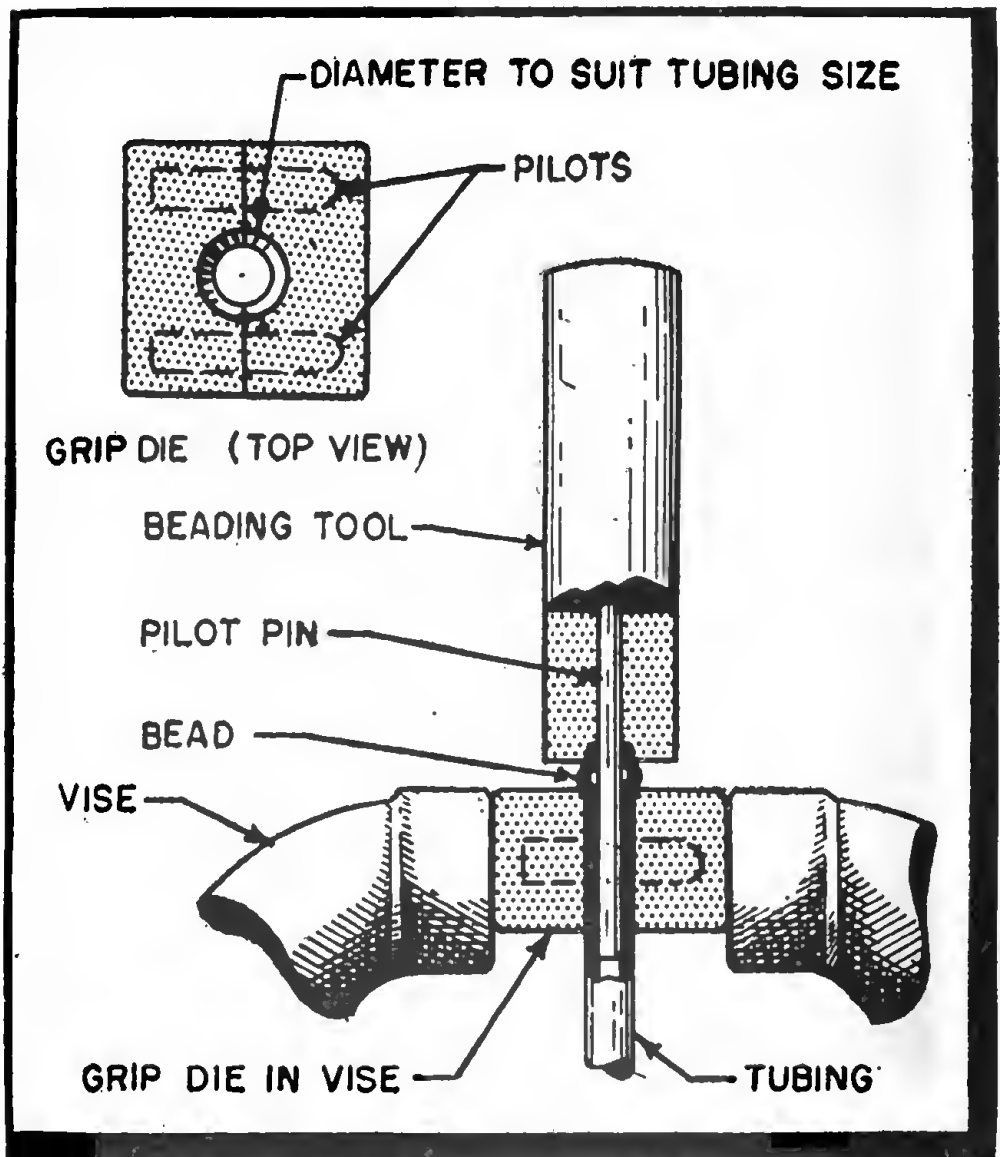

Figure 166. Tools for beading small tubing.
e. **TUBE-BEADING TOOLS.** Tubing-end hose connections and hose nipples have raised ridges (called beads) near the ends. These beads keep the clamp from slipping off the end of the tubing and thus prevent blow-off of the hose. Beading is usually done with beading tools, two types of which are shown in figures 166 and 167.
(1) The tool set shown in figure 166 is used for beading small tubing. It consists of a set of grip dies and a beading tool. The tubing is placed in the correct grip die and the die is clamped in a vise. (The tubing should extend approximately $1\frac{1}{2}$ diameters above the die.) The pilot pin is then placed in the open end of the tubing and the beading tool is struck lightly with a hammer until the desired bead has been formed.